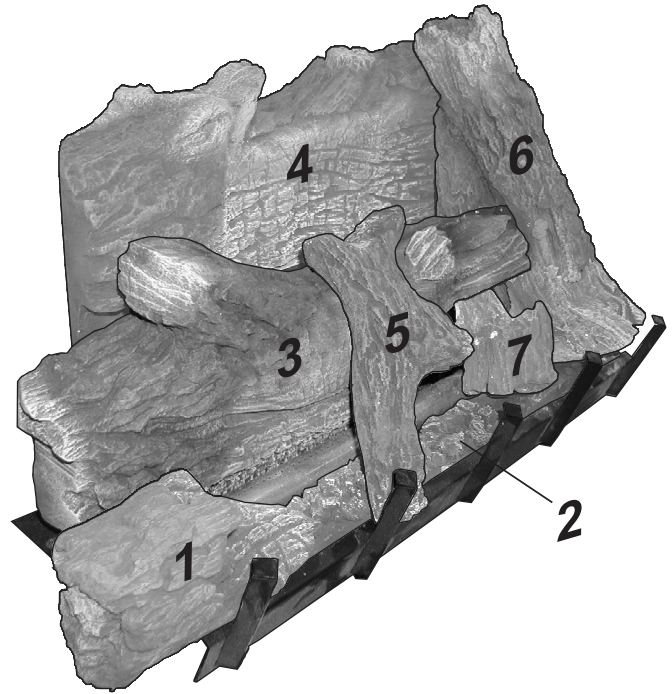
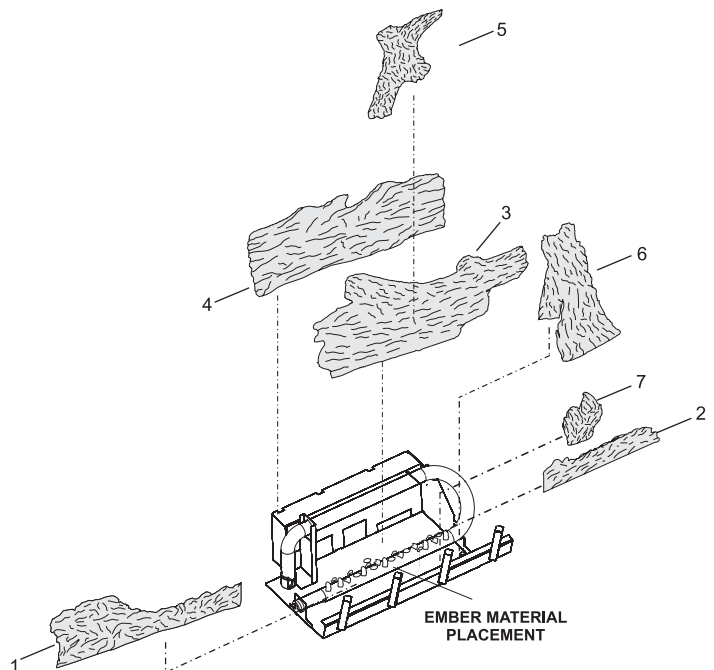
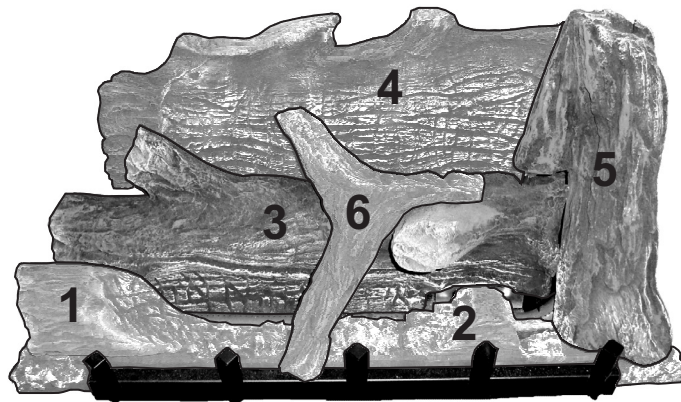
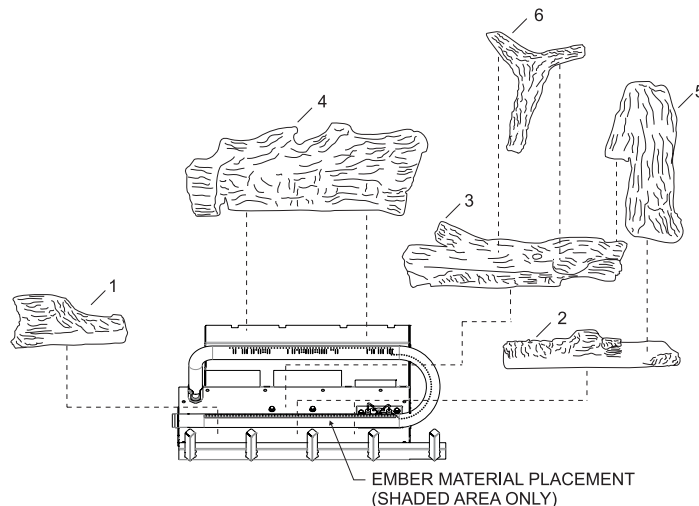

Figure 56
Figure 57
Figure 58
Figure 59
The positioning of the logs is critical to the safe and clean operation of this fireplace. Sooting and other problems may result if the logs are not properly and firmly positioned in the firebox. Please refer to **Figure 56** and **Figure 57** and corresponding WARNING when completing following log placement instructions.
7. Place right "Y" branch (#6) along side of middle log as shown in **Figure 57**. Twist branch so that the "Y" portion rests slightly behind the middle log (#3) and the pin on the branch goes into the recess on the rear log (#4).
11. After all logs are positioned properly, apply glowing material to the front burner port area. To apply, carefully separate the ember material into small amounts no larger than "dime size" pieces. Fluffed up pieces one layer thick on top of the burner generally work best, and will provide the best ember glow. Do not place ember material more than one layer thick. No more than one small packet of ember material (part no. 15999) evenly placed on the burner. Using additional ember material will decrease the amount of ember glow effect. Extra ember material should be saved for future application as necessary. **See Figure 57.**
Attention: Do not use Figure 56 or Figure 57 to order logs. Refer to parts list and parts view on pages 56 to 57 to order logs and/or ember material for your appropriate fireplace model.
The positioning of the logs is critical to the safe and clean operation of this fireplace. Sooting and other problems may result if the logs are not properly and firmly positioned in the fireplace. Please refer to **Figure 56** and **Figure 59** and corresponding WARNING when completing following log placement instructions.
7. Place right branch (#5) along side of middle log as shown in **Figure 59**. Insert the bottom pin on the "Y" portion of the branch into the recess on the middle log (#3). Rotate the branch clockwise so that the top pin can be inserted into the recess on the rear log (#4).
10. After all logs are positioned properly, apply glowing ember material to the front burner port area. To apply, carefully separate the ember material into small amounts no larger than "dime size" pieces. Fluffed up pieces one layer thick on top of the burner generally work best, and will provide the best ember glow. Do not place ember material more than one layer thick. No more than one small packet of ember material (part no. 15999) evenly placed on the burner. Using additional ember material will decrease the amount of ember glow effect. Extra ember material should be saved for future application as necessary. **See Figure 59.**
Attention: Do not use Figure 58 or Figure 59 to order logs. Refer to parts list and parts view on pages 58 to 59 to order logs and/or ember material for your appropriate fireplace model.